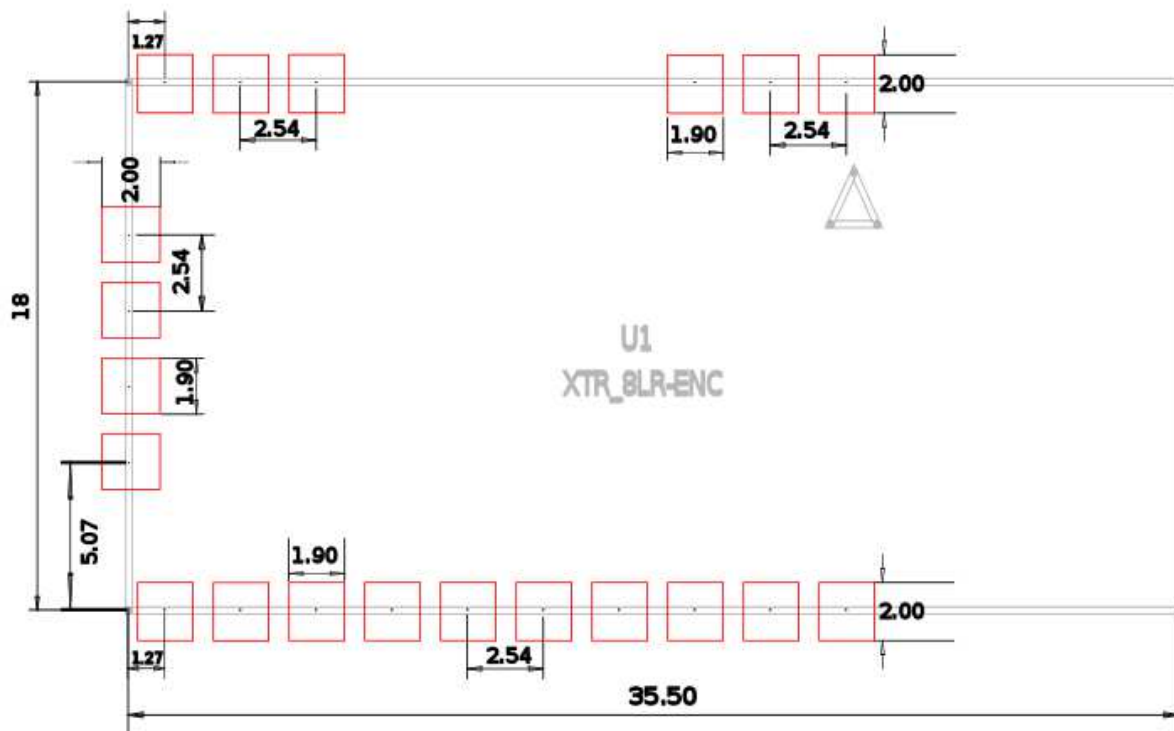

Figure 2: suggest layout for host board.
- **Soldering paste:** use soldering paste as SAC305 (96,5% Sn, 3% Ag, 0,5% Cu), screen printed according the layout of Figure 2, with a thickness > 150um.